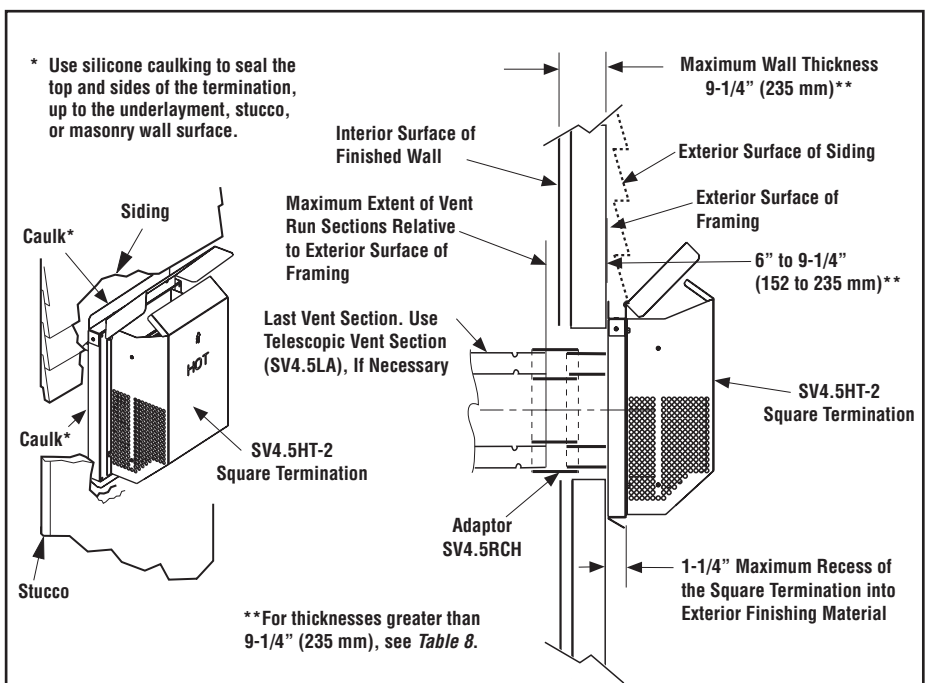

Figure 35 Venting Connection and Exterior Wall Recessing of the Horizontal Square Termination (SV4.5HT-2).
J. Assemble vent run to exterior wall - If not previously measured, locate the center of the vent at the exterior wall. Prepare an opening as described in **Step B**. Assemble the vent system to point where the terminus of the last section is within 7" (178 mm) to 11-1/4" (286 mm) inboard of the exterior surface to which the SV4.5HT termination is to be attached, see **Figure 35**. If the terminus of the last section is not within this distance, use the **telescopic vent section SV4.5LA**, as the last vent section. For wall thicknesses greater than that shown in **Figure 35**, refer to **Table 8 on Page 25**. This table lists the additional venting components needed (in addition to the termination and adaptor) for a particular range of wall thicknesses.
1. Install the square termination (SV4.5HT-2)- For the last step, from outside the exterior wall, slide the collars of the termination onto the adaptor (the outer over the outer and the inner inside the inner) until the termination seats against the exterior wall surface to which it will be attached. Orient the housing of the termination with the arrow pointed upwards. Secure the termination to the exterior wall. **The horizontal termination must not be recessed into the exterior wall or siding** by more than the 1-1/4" (32 mm) as shown in **Figure 35**.
Table 8 *NOTE: See Figure 35, page 24 showing wall thickness range when using SV4.5HT-2 termination kit.*